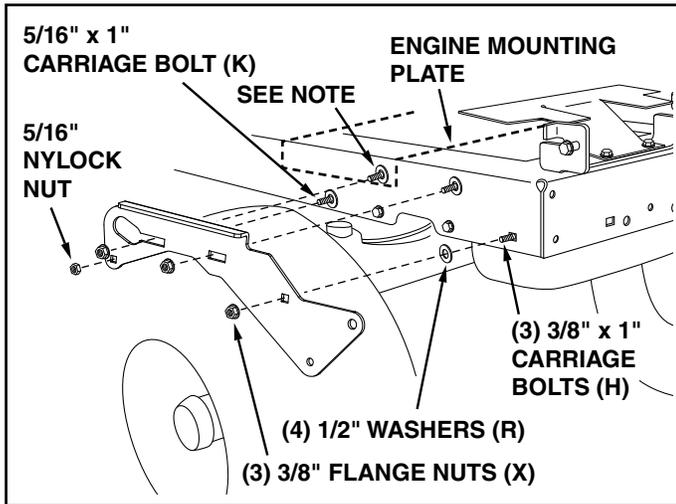

FIGURE 3 RIGHT SIDE VIEW
STEP 3: (SEE FIGURE 3)
- Fasten the R.H. Side Plate (bend facing out) to the front three holes in the tractor frame using three 3/8" x 1" carriage bolts (H), three 1/2" washers (R) (see note) and three 3/8" flange nuts (X). For the rear hole, use a 5/16" x 1" carriage bolt (K), a 1/2" washer (R) and a 5/16" nylock nut (Y). Place the 1/2" washers between the tractor frame and the side plate. Repeat for L.H. side plate.